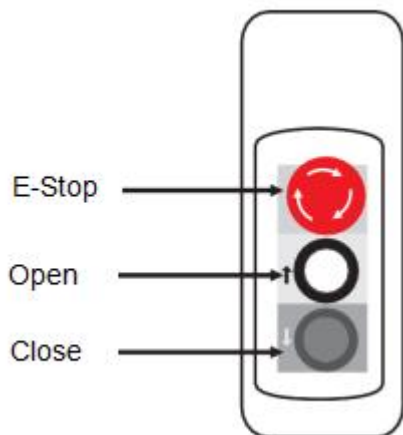

Figure 1-1 Handle switch
- 4) When the operator starts the handle switch (see Figure 1-1), the operators must pay close attention to the progress of the system. Under normal conditions, each row is pulled out in turn.